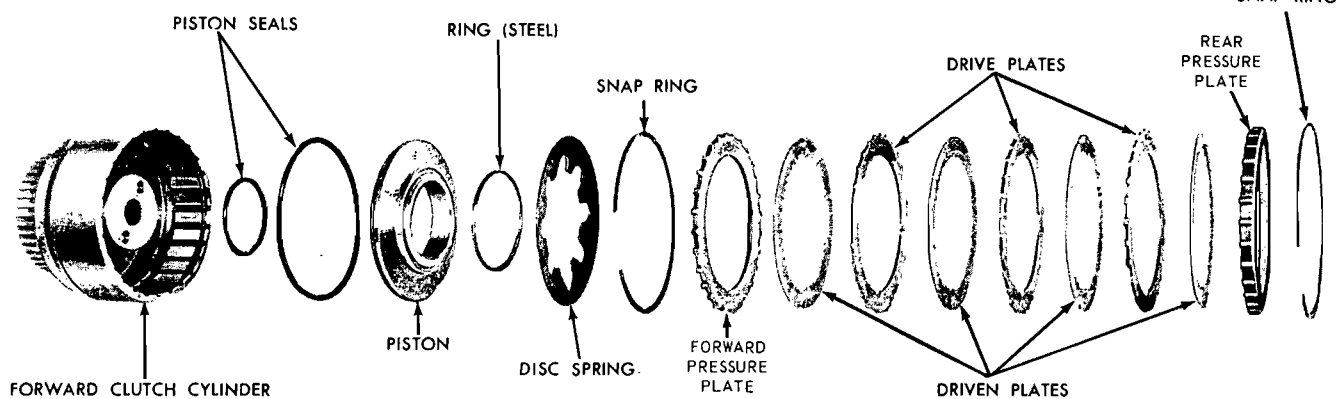

FIG. 88—Forward Clutch Disassembled
2. Remove the pressure plate, and the drive and driven clutch plates from the clutch hub (Fig. 88).
5. Remove the clutch piston outer seal and the inner seal from the clutch hub (Fig. 88).
Install one non-metallic clutch plate and alternately install the drive and driven plates. The last plate installed will be the top pressure plate. (Fig. 88). Refer to Specification Section for the correct number of clutch plates for the applicable model transmission.